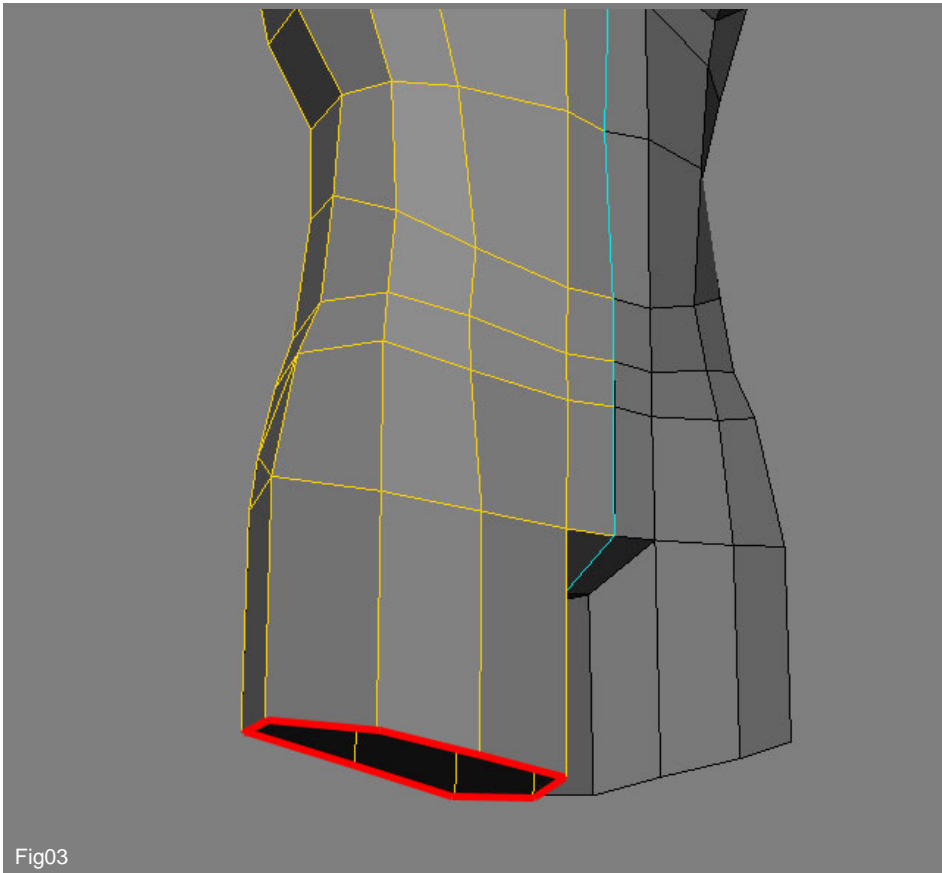

Fig03
3. Check if the vertices need some adjustments. Once you have a nice and clean mesh, select the edges shown in Fig 03 and duplicate/extrude them downwards (Ctrl + D), just like we've done before.